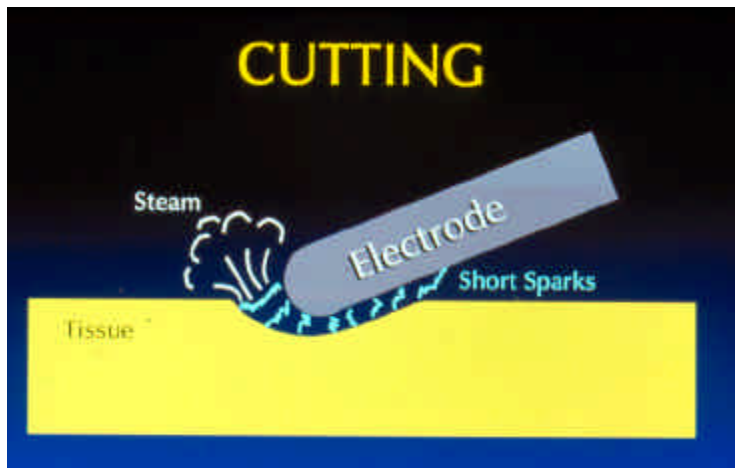

Fig 13
**Cut works best when the electrode is lightly floating just above the tissue**, but not making firm contact with it. A very narrow steam envelope is created in the small gap between tissue and electrode which allows intense, short sparking to tissue. **If the envelope is lost by forcing the electrode into tissue, the cutting has changed to desiccation**. Figure 13 shows an exaggerated view of this steam envelope and the short sparking which occurs.